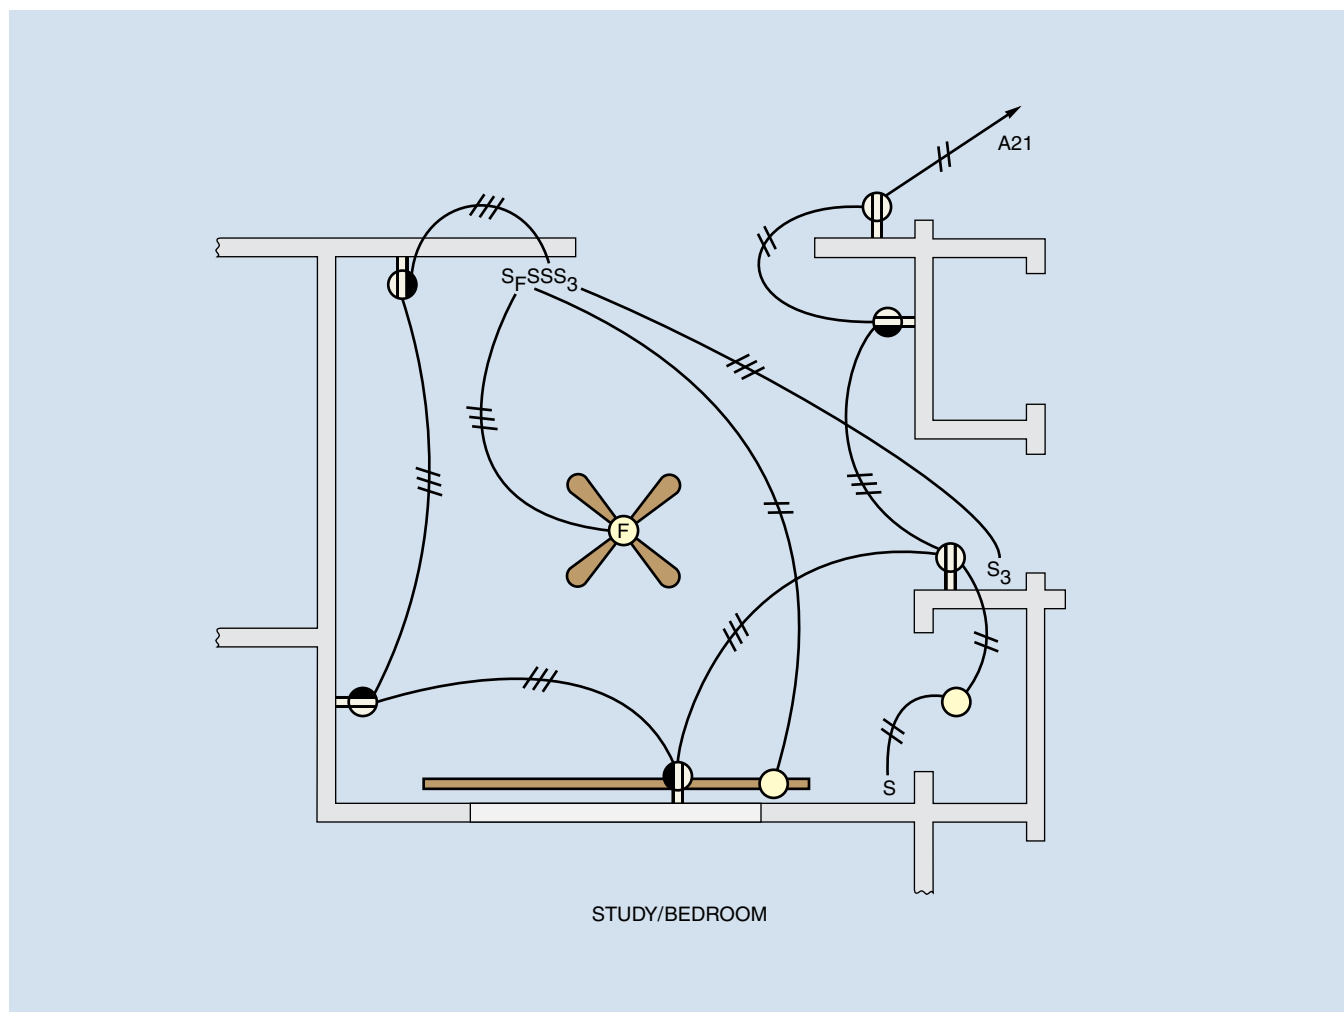

Figure 14-1 Cable layout for the study/bedroom.
This circuit feeds the study/bedroom at the receptacle in the living room just outside of the study. From this point, the circuit feeds the split-circuit receptacle just inside the door of the study. A 3-wire cable runs around the room to feed the other four split-circuit receptacles. Figure 14-1 shows the cable layout for Circuit A21.
8. Using the cable layout shown in Figure 14-1, make a complete wiring diagram of Circuit A21. Use colored pencils or pens.